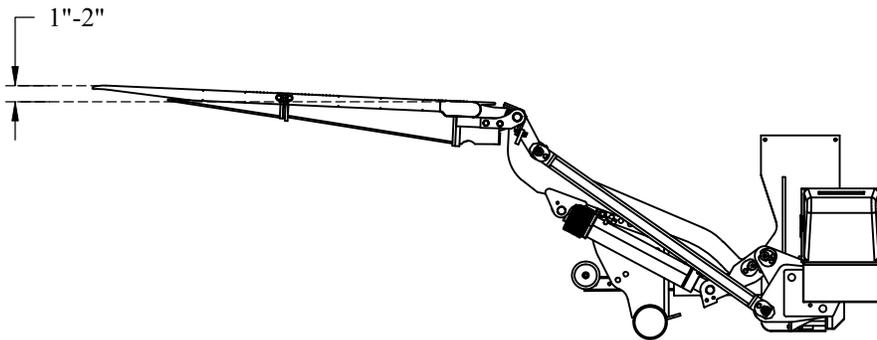
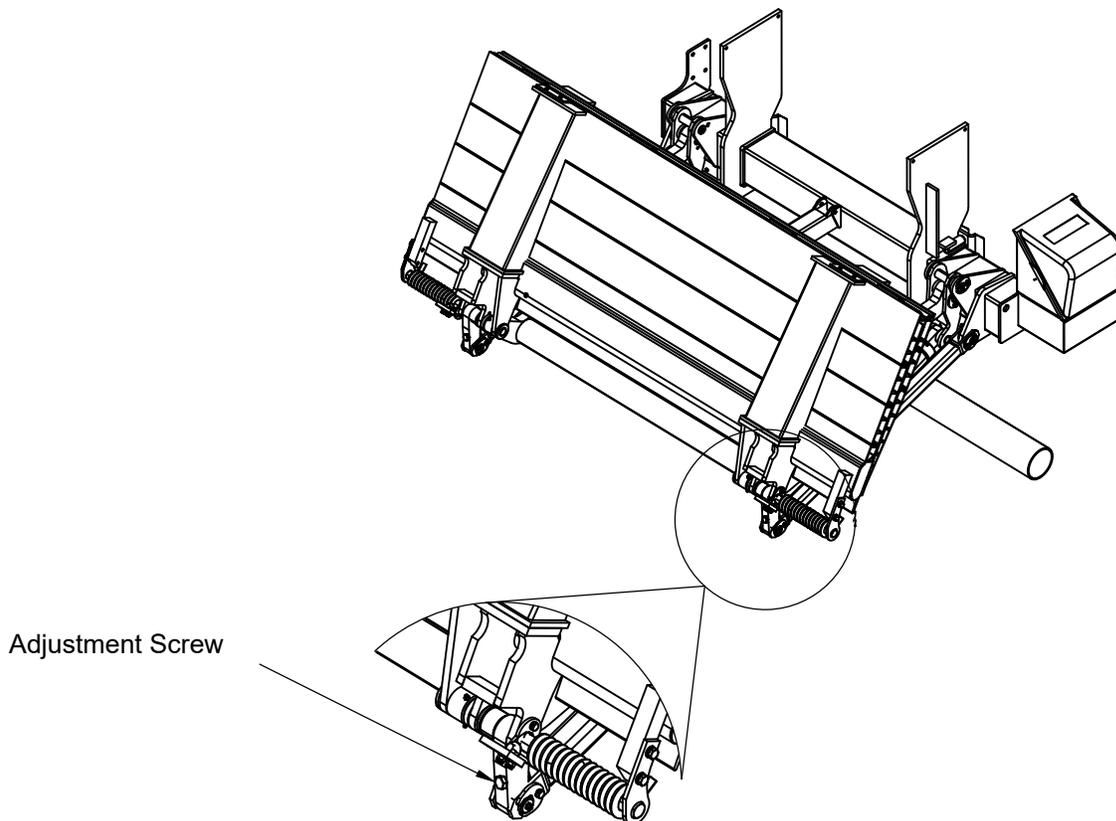

Figure 17: Platform Slope.
Figure 18: Adjustment Screw
17. **Adjust** the platform slope using the adjusting screws so the platform front edge stays 1"-2" higher than the rear of the platform (Figure 17). This allows for liftgate deflection when fully loaded. The screws must be adjusted, so they support the platform evenly (Figure 18).